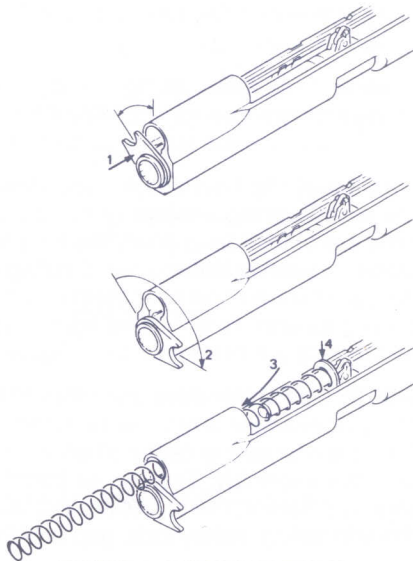

FIGURE 12—INSTALLING BARREL BUSHING AND RECOIL SPRING/S.
2. **(A only)** (See Figure 12). Place barrel bushing over muzzle of barrel and into slide until it is flush with the face of the slide, (STEP 1). Turn bushing clockwise as far as it will go, (Step 2).